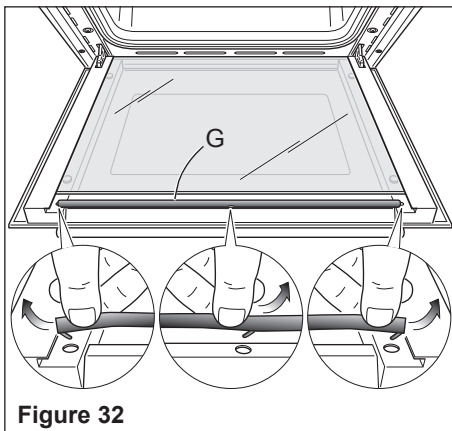

Figure 32
- Remove the seal "G" by unhooking the no. 3 fixing hooks (fig. 32).